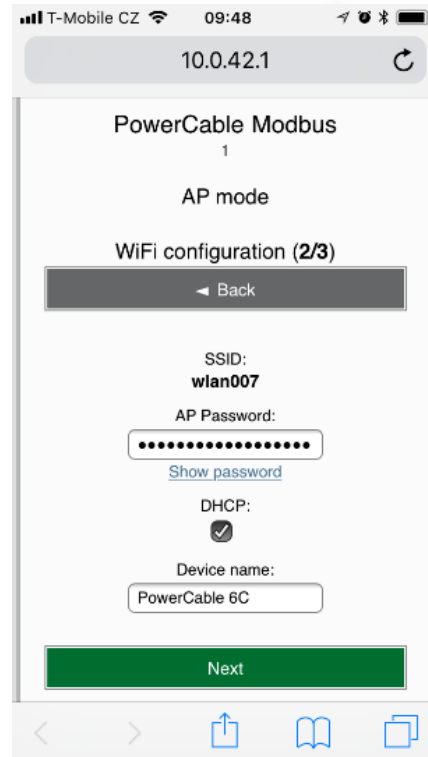
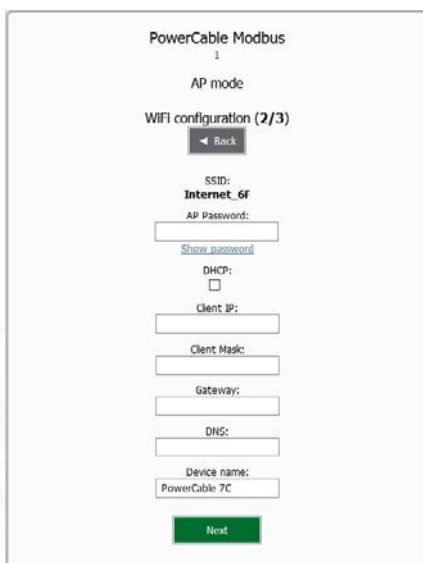

Figure 15 - Connecting to Wi-Fi in AP mode
Figure 16 - Configuring the network IP parameters
- Enter the password for the selected WiFi network. You may also change the device name. If your network does not use DHCP, unselect this option and manually enter the IP address and other network parameters (Figure 16; for experts only). Click “Next” to confirm (Figure 15).